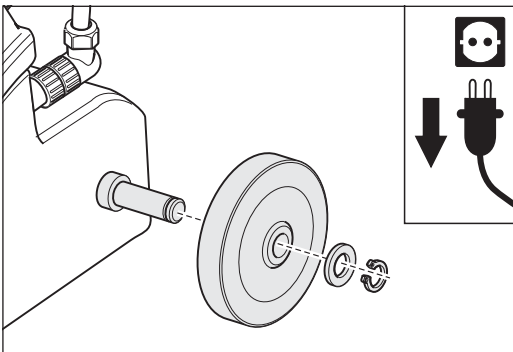

Fig. 35 Remove the retaining ring and remove the washer and the wheel. Install again in reverse order.
- 2 Use a suitable pair of circlip pliers to remove the retaining ring from the wheel axle. Remove the washer and the wheel (Fig. 35).